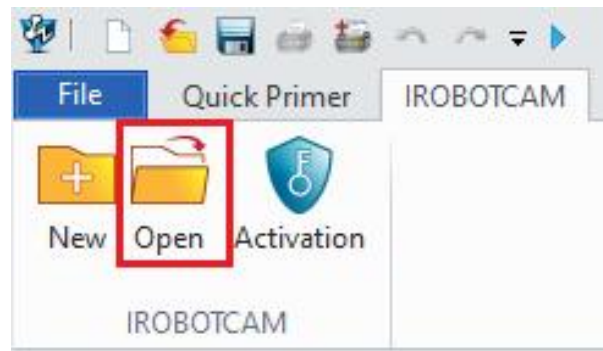

Figure 6-2: Open iRobotCAM project file
- Open iRobotCAM project file "Define Conveyor Belts.Z3" to access the IROBOTCAM environment. (Figure 6-2)